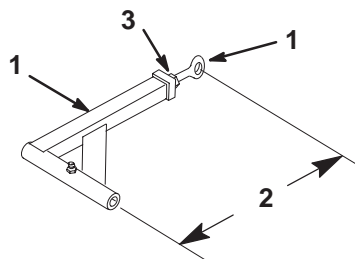

Figure 59
1. To adjust push arms, loosen jam nut and rotate ball joint counterclockwise, one turn at a time. (Fig. 59).
2. Adjust each side the same amount. Each push arm should have a nominal length of 15-5/16 in. (389mm) (Fig. 59).